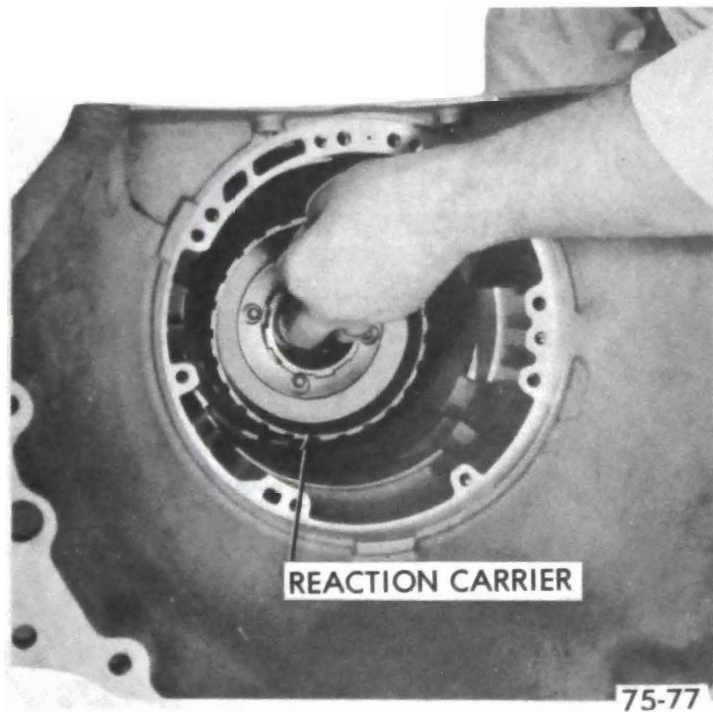

Figure 75-231
5. Install output shaft and reaction carrier assembly into case. See Figure 75-231.